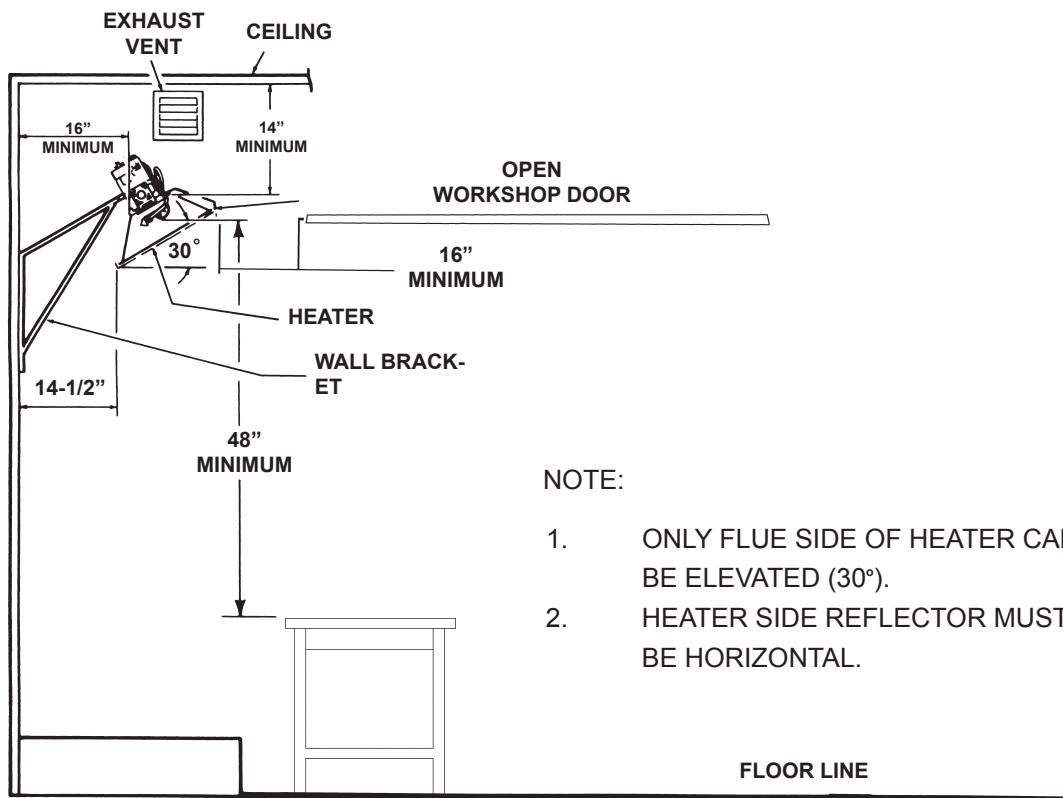

Figure 2. Installation Clearances to Combustible Surfaces
Maintain clearances as shown in Figure 2 or on heater nameplate.
⚠ WARNING: Maintain clearances as shown in Figure 2 or on heater nameplate.
- The required minimum clearances to combustible surfaces are illustrated in Figure 2 and Table 3. As shown on Figure 2, the front of the heater is installed at the minimum required clearance to